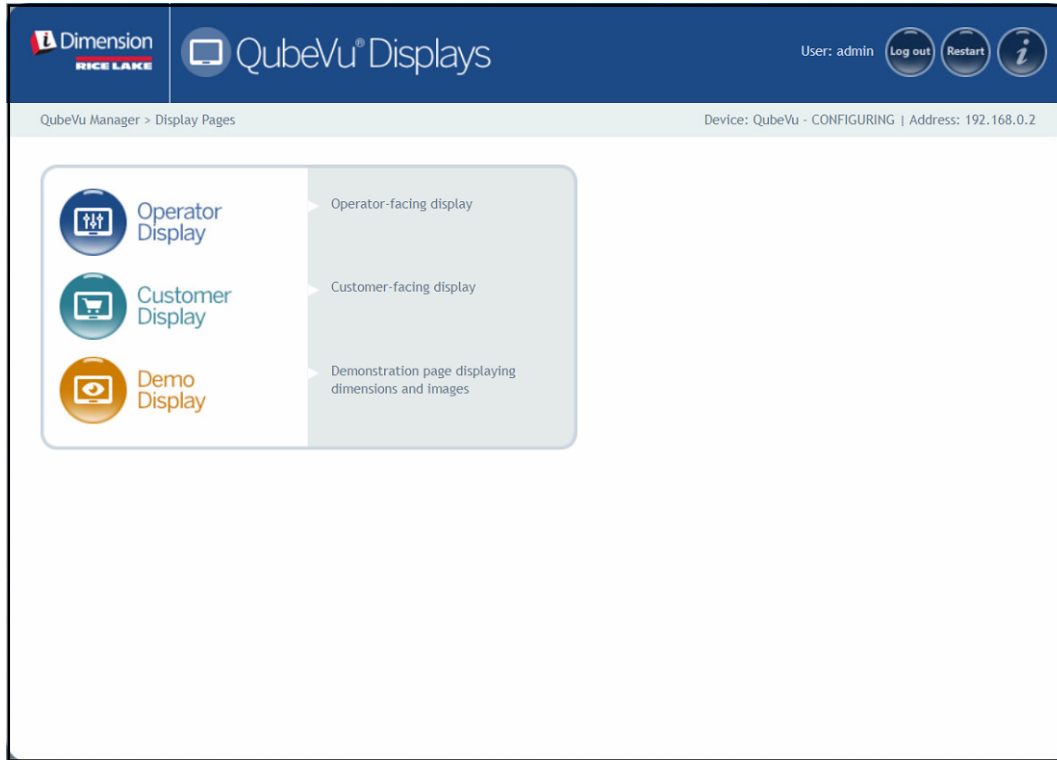

Figure 3-1. Displays Menu
- Select  **Operator Display** from the **Display Pages** menu (Figure 3-1 on page 16). The Operator Display appears.
- Select  **Customer Display** from the **Display Pages** menu (Figure 3-1 on page 16). The Customer display appears.
- Select  **Demo Display** from the **Display Pages** menu (Figure 3-1 on page 16).